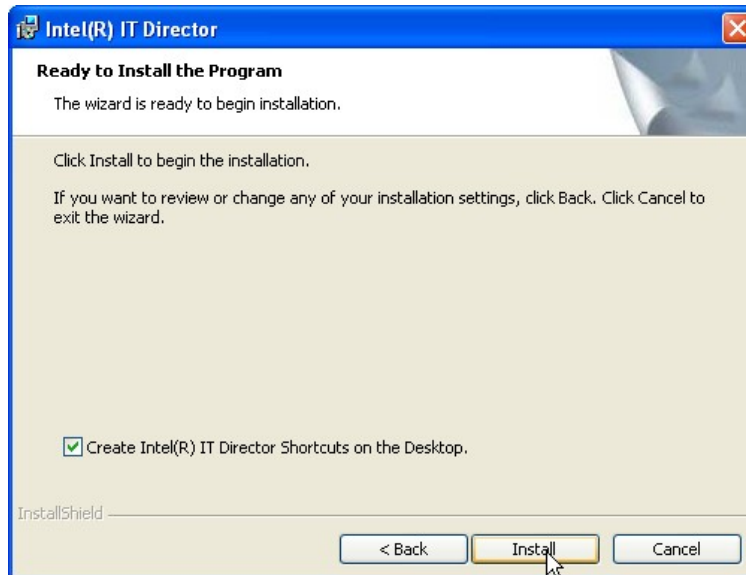

Figure 6-35: IT Director Installation
Step 11: The Ready to Install the Program screen in Figure 6-35 appears.